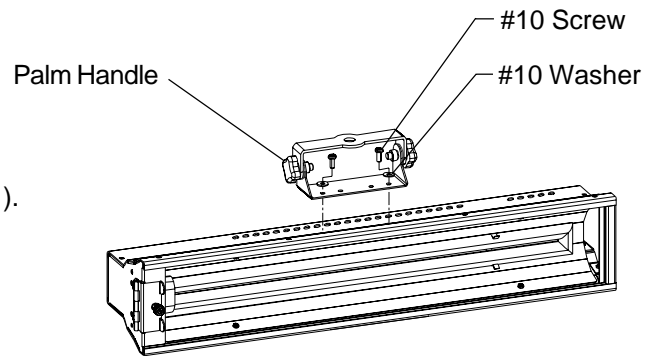

Figure 1
1. Position yoke over mounting holes in fixture (Fig. 1).
2. Thread #10-32 screw and flat washer into place as shown (Fig. 1).